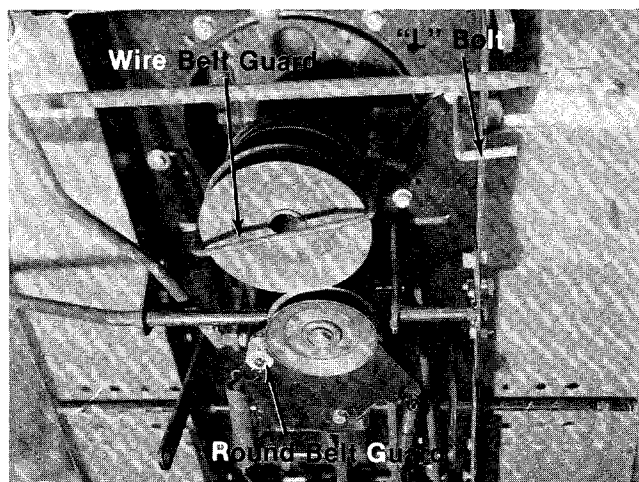

FIGURE 5.
2. Remove the round belt keeper from the idler by removing the cotter hairpin. (See figure 5.)